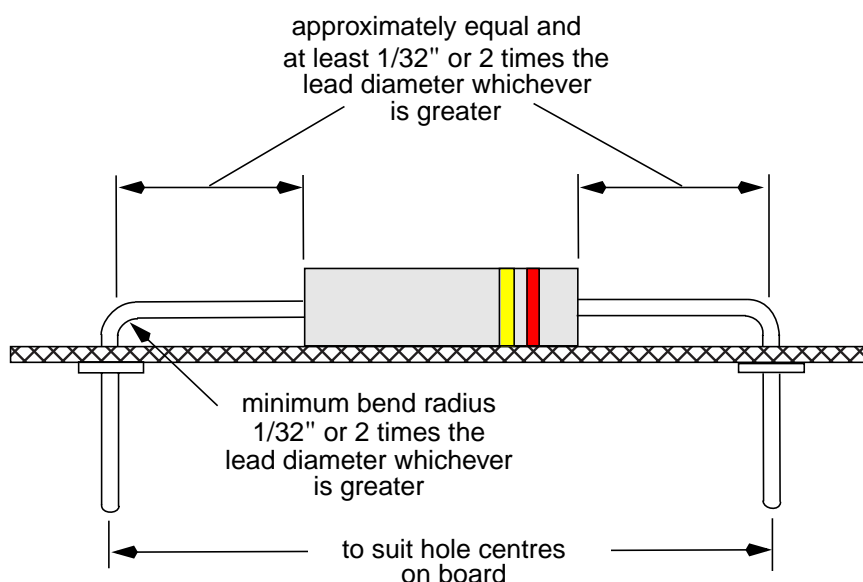

Figure 1 - Standard Flush Mount
- Ensure that the distance between the component body and the commencement of the initial lead bend is at least $1/32"$ or 2 times the lead diameter, whichever is greater (see Figure 1).
- Ensure that the inside bend radius is at least $1/32"$ or 2 times the lead diameter, whichever is larger (see Figure 1).
- 5.4.2 For standard flush mounting of components with axial leads, bend lead wires 90° on the appropriate hole centres for the particular component location on the printed circuit board (see Figure 1) and ensure that the component body is mounted flush to the board surface within 1/32".